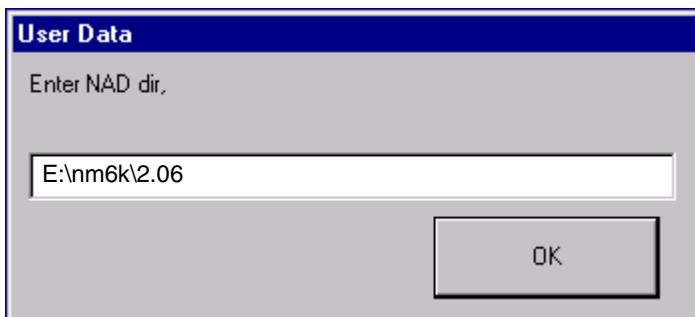

FIGURE 41. Source Directory Dialog
- 8.75 Touch the 'Enter NAD dir' field, then using the keyboard connected to the NM6000 type in the source directory as 'E:\NM6K\2.06', and press Enter. See Figure 41.